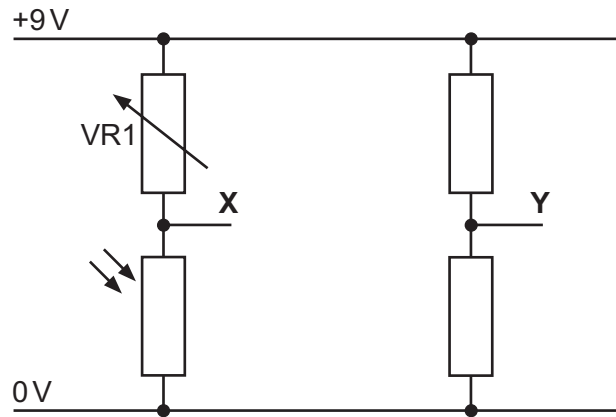

Fig. 12.1
12 (a) Fig. 12.1 shows part of the circuit for an LED night light.
- (iii) Calculate the voltage at point **X** in Fig. 12.1 when the resistance in VR1 is 110kΩ and the LDR resistance is 243kΩ.
- (iv) The voltage at **Y** in Fig. 12.1 has been calculated to be 6.9V. When the circuit is tested with real components in a breadboard the voltage **Y** is measured as 6.7V. Give **two** possible reasons for the calculated and actual values being different.